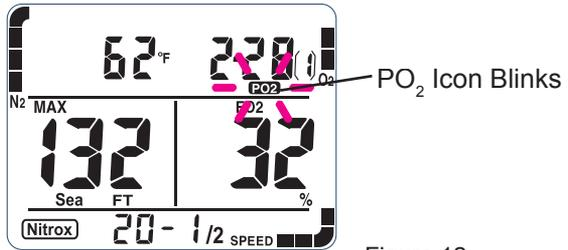

Figure 12
**PO2 warning:** The PO2 icon blinks if the warning was active during the dive. (Fig. 12)